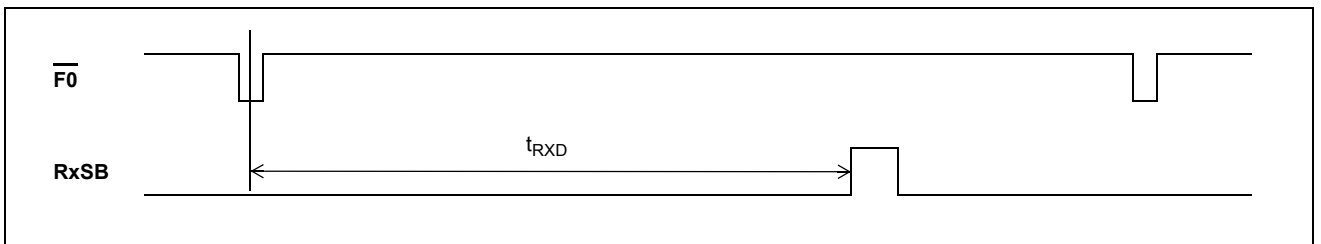

Figure 22 - RxSB Timing for DN MAS Mode
**AC Electrical Characteristics† - RxSB Timing - DN MAS Mode (Figure 22)**